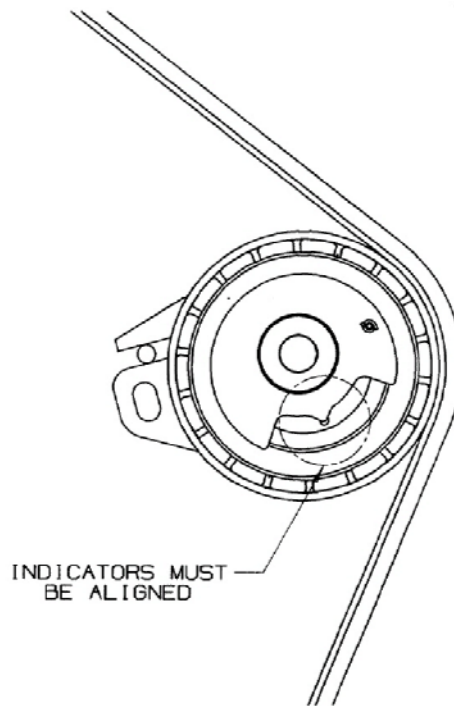

Figure 5: Verification of Tensioner Installation
10. Using the installation tool to hold the tensioner position, loosen the tensioner Mounting Nut enough to allow movement. Watching the movement of the arm pointer, slowly retract the tensioner away from the belt until the Nominal Position Indicator Mark on the tensioner arm aligns with the Position Indicator on the front plate (See Figure 5).